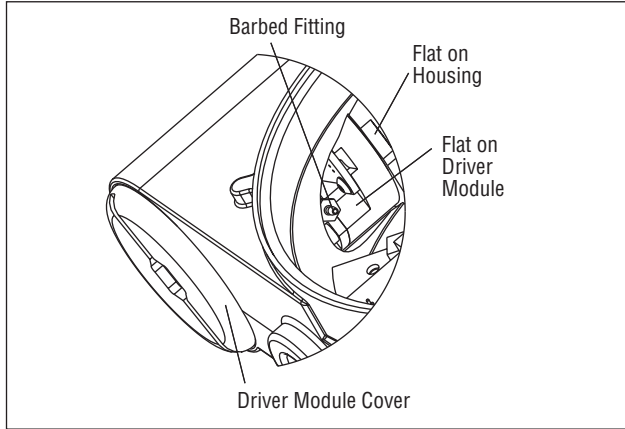

Figure 17: Driver Module Barbed Fitting
3. Remove the driver module cover (Figure 17), using a flat bar or plate in the slot to turn the cover.
9. Remove the plastic board cover by removing the three retaining screws (see Figure 17).
10. Disconnect the flexible tubing from the barbed fitting at the driver module assembly (see Figure 17).
is clear of the slot. It is not necessary to remove the sheet metal cap, hydrophobic filter, or O-ring from this assembly (Figure 17).